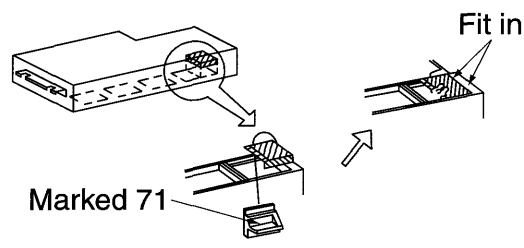

Fig. 20
- Attach to the right side of the 4 position for drain pan opening. (Refer to Fig. 20)